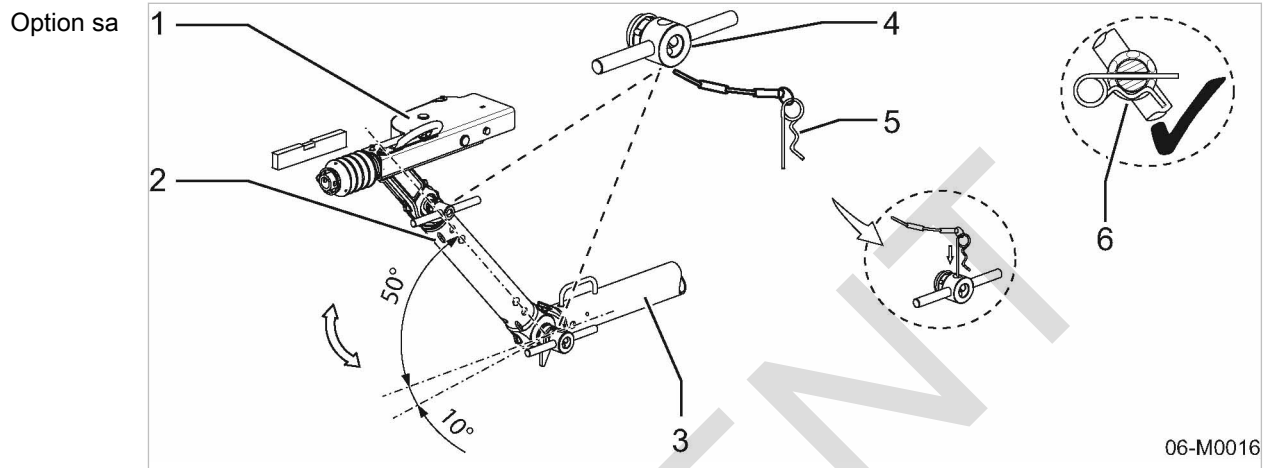

Fig. 19 Towbar height adjustment
- the cotter pin is correctly inserted to secure the locking lever (see Pos. 6 in Fig. 19).